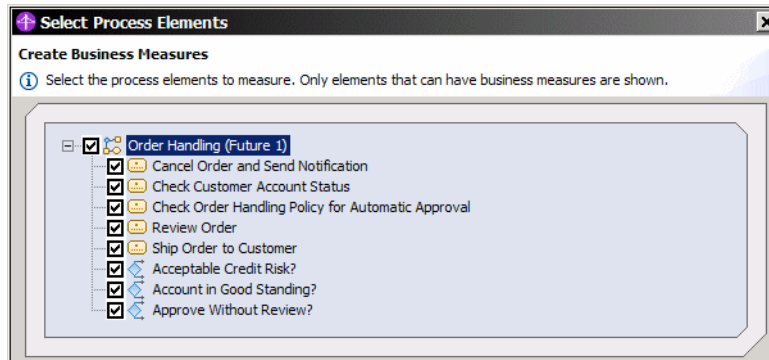

Figure 8-6 Element selection to create business measures model
- ▶ A dialog opens (Figure 8-6) and displays the elements of the process that are available for monitoring. Elements that cannot have associated business measures, such as repositories, are not listed in the dialog box and simply copied to the diagram in the Business Measures editor.